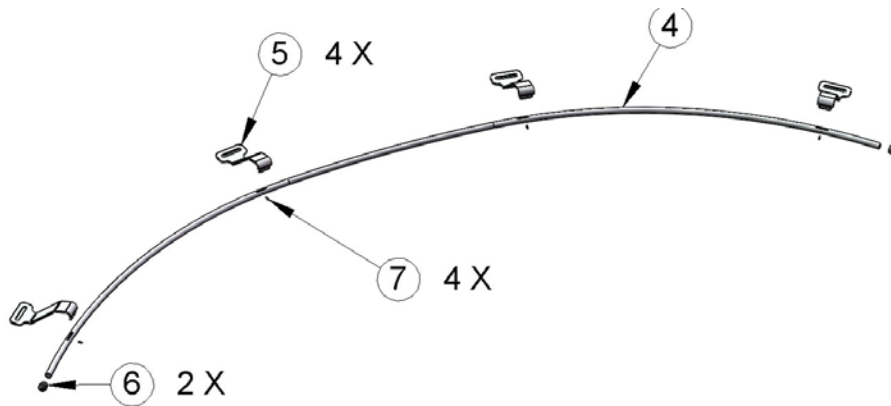

Fig 3
- b. Tighten screw knob to closure and install e-clip into groove on end of knob screw. See figure 3